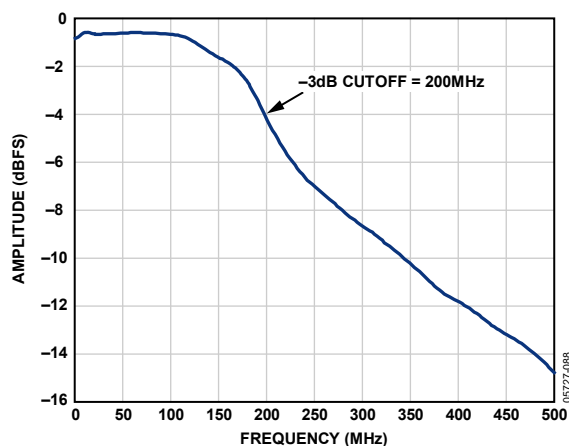

Figure 72. Evaluation Board Full-Power Bandwidth
- **AIN:** The evaluation board is set up for a transformer-coupled analog input with an optimum 50  $\Omega$  impedance match of 200 MHz of bandwidth (see Figure 72). For more bandwidth response, the differential capacitor across the analog inputs can be changed or removed. The common mode of the analog inputs is developed from the center tap of the transformer or AVDD\_DUT/2.